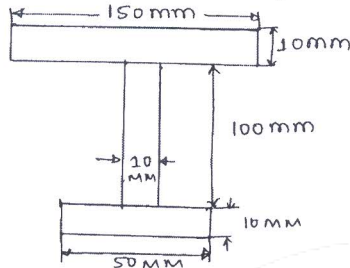

Fig.Q1(b)
b. Locate centroid of the following I section shown in Fig.Q1(b). (14 Marks)